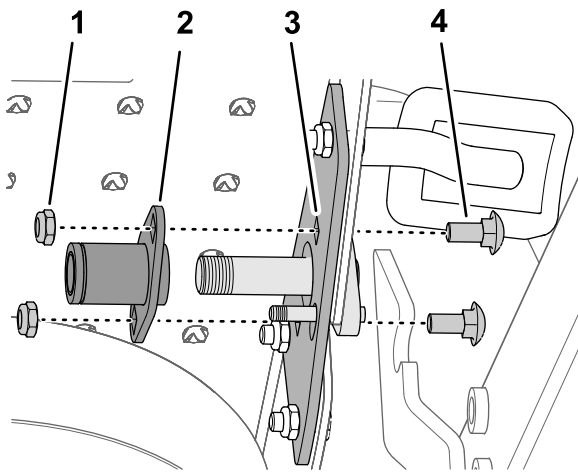

Figure 12
9. Assemble the bushing plate onto the pivot bracket and the footrest flange (Figure 12) with the 2 carriage bolts (5/16 x 3/4 inch) and 2 locknuts (5/16 inch).